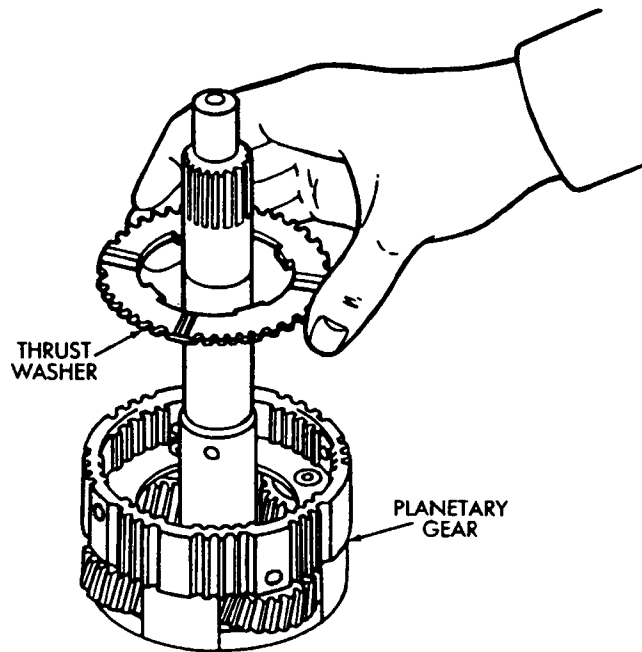

Fig. 20 Install Planetary Thrust Washer
- (1) Install thrust washer in planetary gear (Fig. 20). **Grooved side of washer faces up and toward front.**